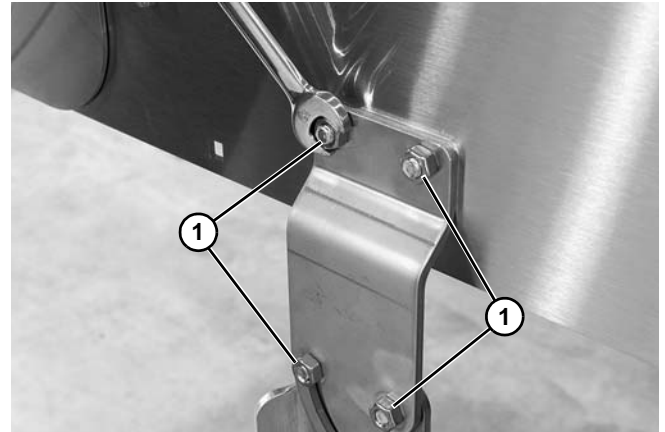

Figure 58
18. Remove fasteners (Figure 58, item 1) securing the stand brackets from one side of the conveyor and remove brackets.